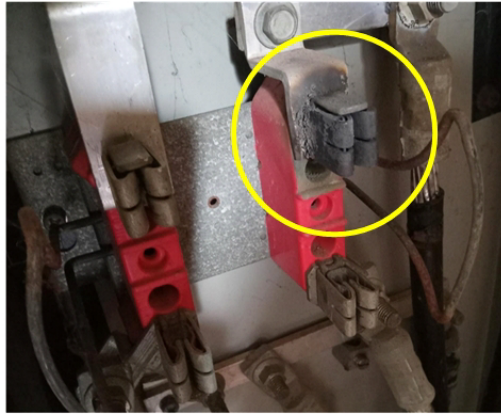

Figure 12. Corroded Jaw.
- b. Meter sockets with signs of corrosion or overheating as shown in Figure 12.